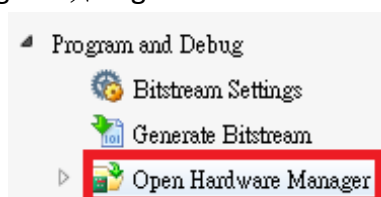

Figure 26
4.1 點選 Open Hardware Manager，如 Figure 26